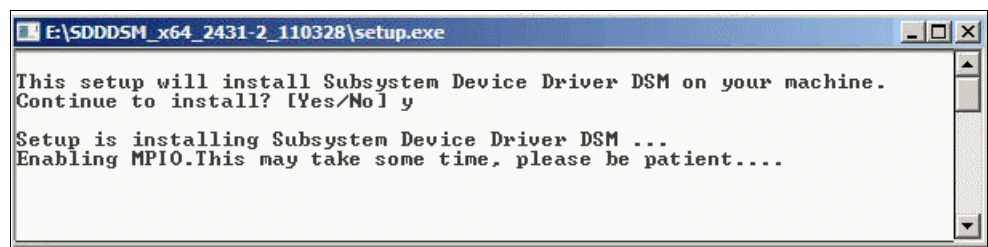

Figure 5-79 Setup CLI
3. The setup CLI appears, type **yes** to install the SDDDSM and press Enter, as shown in Figure 5-79.